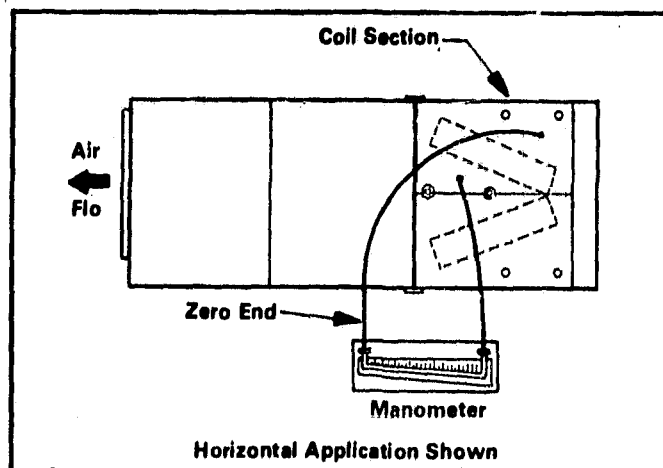

Figure 6
- 1 - Remove snaphole plugs from unit test holes. Insert manometer hoses 1/4 inch (6.4 mm) past the inside edge of cabinet insulation. Seal around hoses with permagum or sealing compound. Connect zero end of manometer to entering air side of coil. Refer to Figure 6.